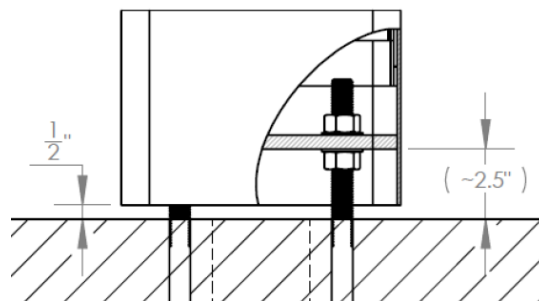

Figure 1. Tower Mount Installation with air gap
2. Install one 3/4" nut and one washer on each anchor bolt 2.5-3.5" above grade to top of washer. This will allow for a **1/2" air gap** between the foundation and the tower, which will allow airflow and prevent moisture problems. Verify that the nuts are level (0° pitch). Refer to **Figure 1**.